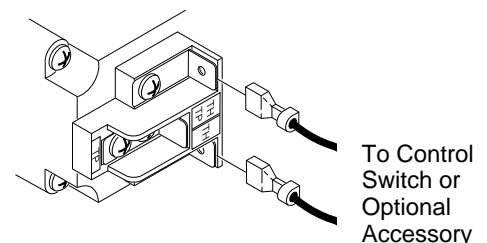

Figure 42 - Control Valve Terminals
1. Connect one terminal of the provided wire for the wall switch to the TPTH terminal on the valve. Connect remaining wire terminal to the TH terminal on the valve. Make sure that the wire terminals are in the positions on the unit as pictured in Figure 42. If wires are not connected as shown the switch will not work.